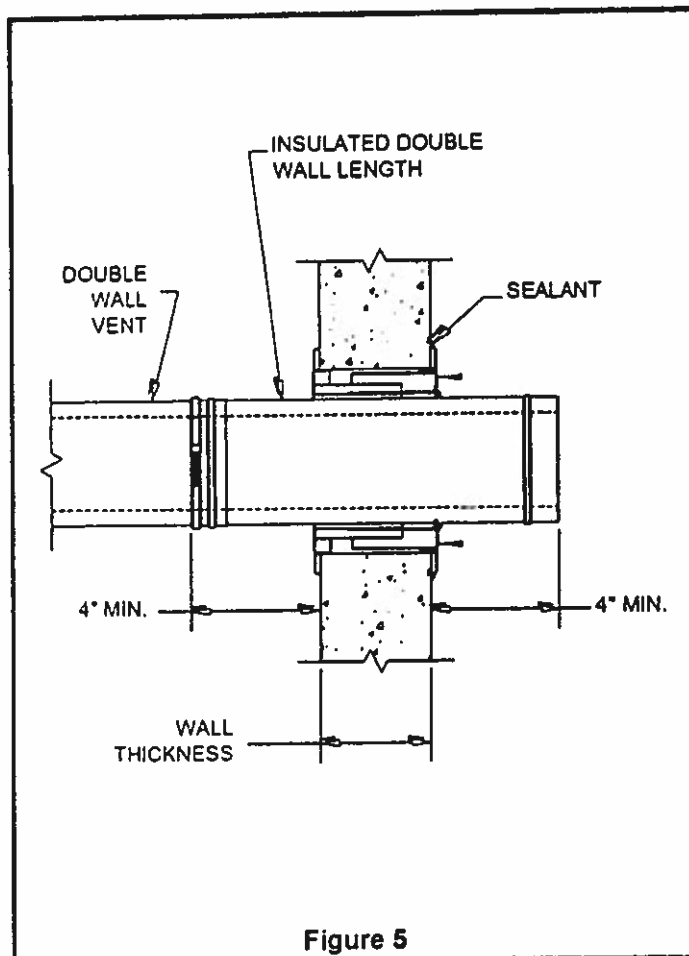

Figure 5
6. Screw the two half plates into the pre punched holes on the Wall Radiation Shield exterior plate (see Figure 5). Those half plates are supplied with the Wall Radiation Shield.